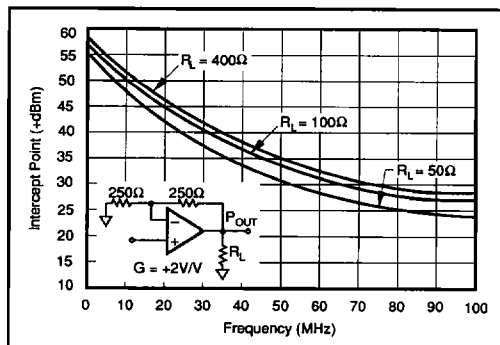

FIGURE 9. 2-Tone, 3rd Order Intermodulation Intercept vs Frequency.
Two-tone, third-order intermodulation distortion (IM) is an important parameter for many RF amplifier applications. Figure 9 shows the OPA621's two-tone, third-order IM intercept vs frequency. For these measurements, tones were spaced 1MHz apart. This curve is particularly useful for determining the magnitude of the third-order IM products as a function of frequency, load resistance, and gain. For example, assume that the application requires the OPA621 to operate in a gain of +2V/V and drive 2Vp-p into 50Ω at a frequency of 10MHz. Referring to Figure 9 we find that the intercept point is +47dBm. The magnitude of the third-order IM products can now be easily calculated from the expression: